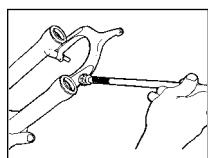

Fig. 5
- Apply a thin layer of New and Improved Judy Butter to the surface of the upper bushings and fill the pocket between the lips of the Resi-wiper seal completely (Fig. 5).